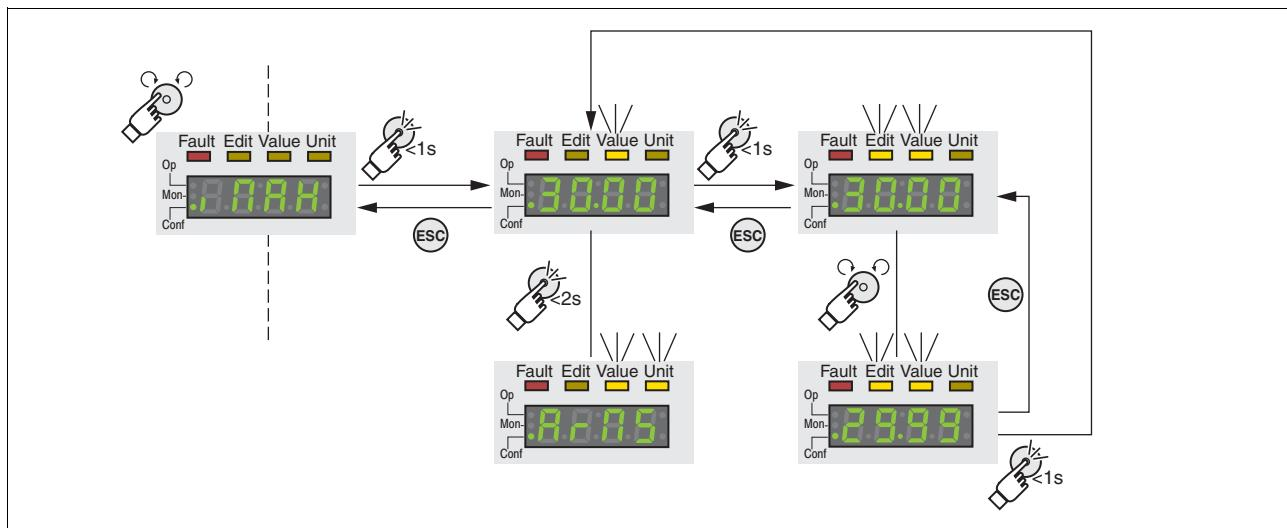

Figure 7.4 Integrated HMI, example of setting a parameter
- The parameter I_{RH} (iMax) is shown on the 7-segment display, see Figure 7.4.